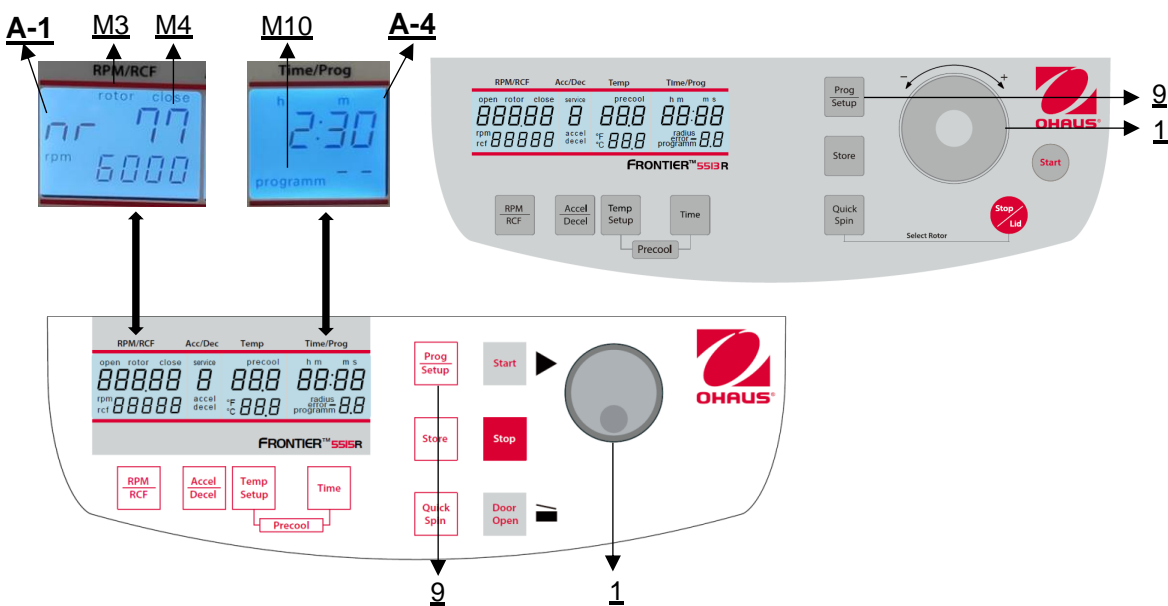

Figure 21
To recall stored programs, press the key "**Prog/Setup**" (9) (see Figure 21) while the lid is already closed. Inside the display "**Time/Prog**" (A-4), "**program--**" (M10) appears. The desired program number can be pre-selected with the touch wheel (1).
To leave the program mode just press the key "**Prog/Setup**" (9) (see Figure 21). Then inside the display "**Time/Prog**" (A-1) the word "**programm**" (M10) appears. Set the display to "**programm--**" (M10) with the touch wheel (1).
You can start the centrifuge either with the "**Start**" key (8) or the "**Quick Spin**" key (6) (see Figure 21). By the "**Start**" key (8) you can start stored runs or runs with manually pre-selected parameters. When the respective pre-selected running time has ended the centrifuge will stop automatically. By the "**Quick Spin**" key (6) you can start runs, which will last just a few seconds.